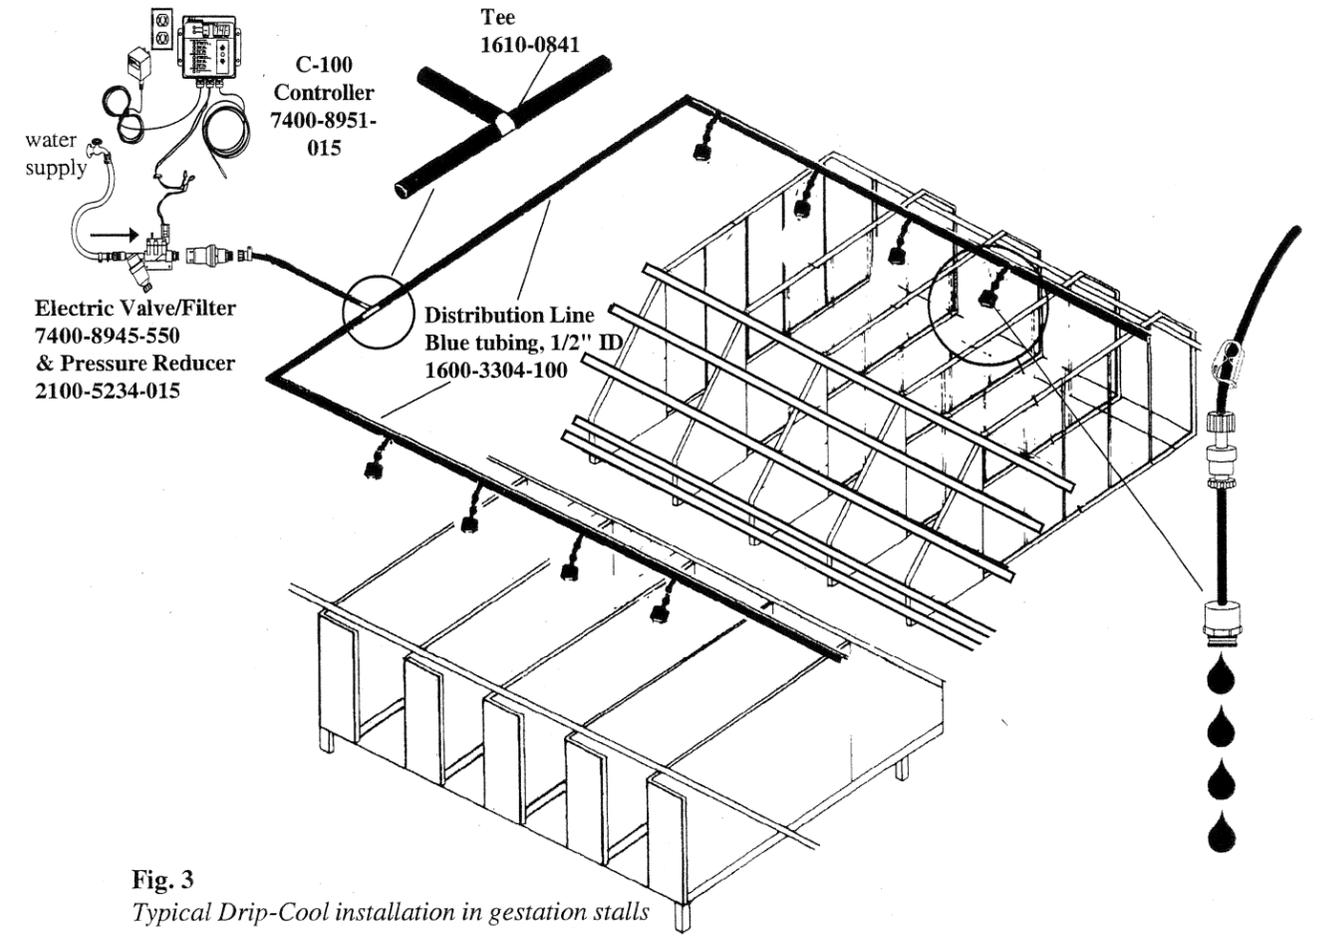

Fig. 3
A typical installation in a facility with gestation stalls is shown in Fig. 3. The distribution lines are mounted on the ceiling, with short (6" to 12") nozzle lines down. (The use of the close-off pinch clamp is optional for gestation stalls.)
Care should be taken to mount the nozzle so the sow cannot reach it with her mouth. This can be accomplished by suspending the drip nozzle approximately 12" above the top of the crate, see Figs. 3 & 4.
- Use the mounting wire, 4000-6269-050, to anchor the drip nozzle in the desired position over the crate. The mounting wire can be secured to the top bars of the crate as shown in Figs. 3 and 4.